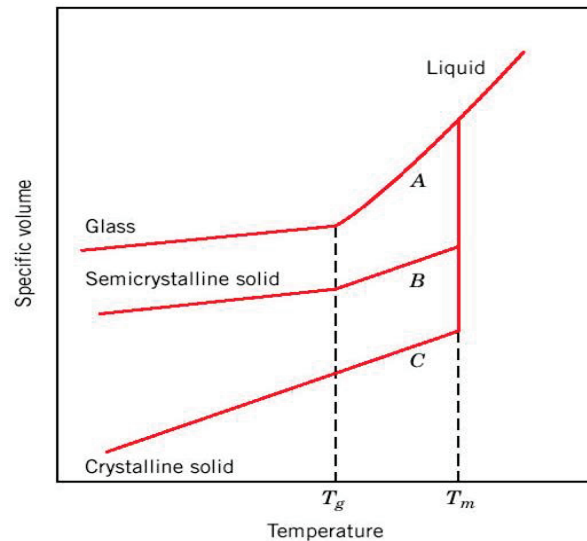

Figure 3: Variation of specific volume with temperature for amorphous polymer, semi-crystalline polymer and pure crystalline materials
- (b). Figure 3 shows the variation of specific volume with temperature for amorphous polymer, semi-crystalline polymer and pure crystalline materials. Discuss why the change in volume at glass transition temperature (T_g) and melting temperature (T_m) is highest for amorphous followed by semi-crystalline and crystalline materials. Consequently, comment on why the change in specific volume is always higher at melting temperature (T_m) than at glass transition temperature (T_g).